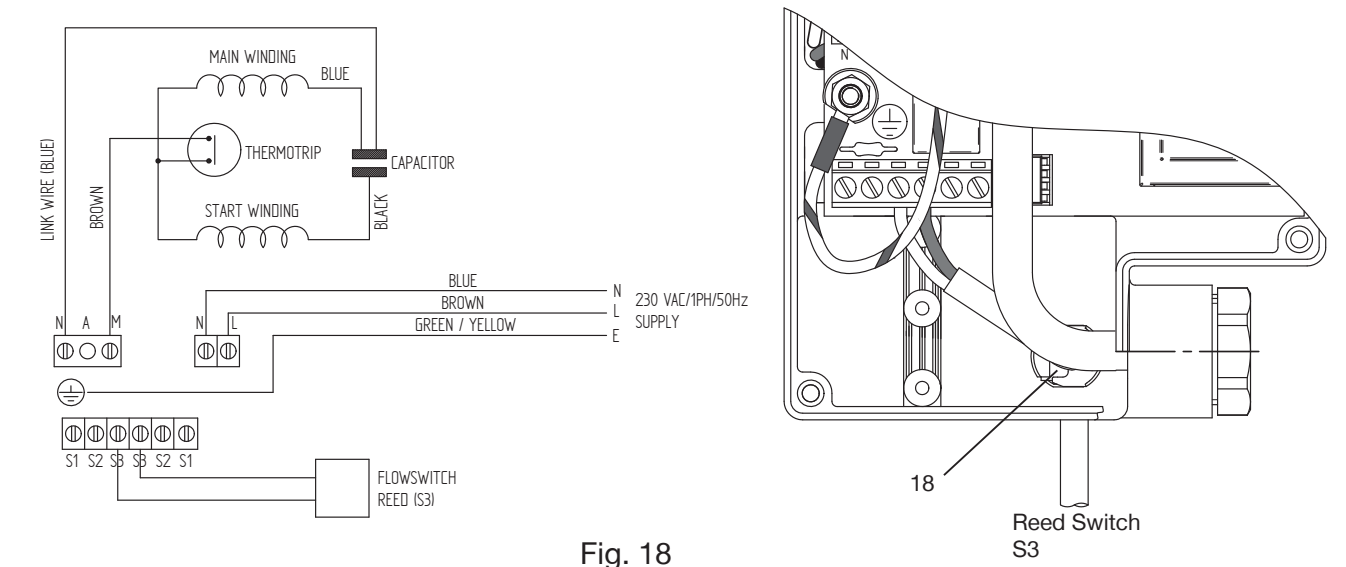

Fig. 18
- Remove four screws and carefully remove terminal box lid (item 22).
- Note the cable routing within the terminal box (Fig. 18).
- Connect the two reed switch wires to the PCB (Fig. 18)